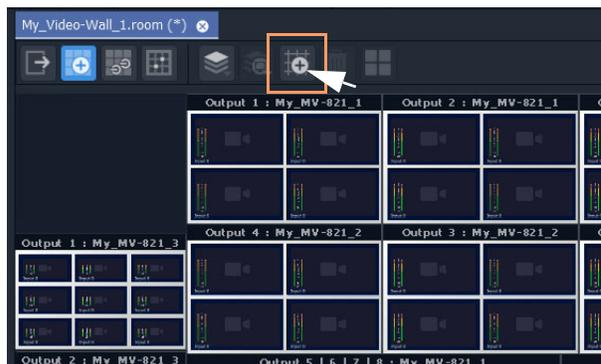

Fig. 8-33: Freehand Positioning Icon
- 1 Click on the **Freehand Positioning** icon (see Figure 8-33).